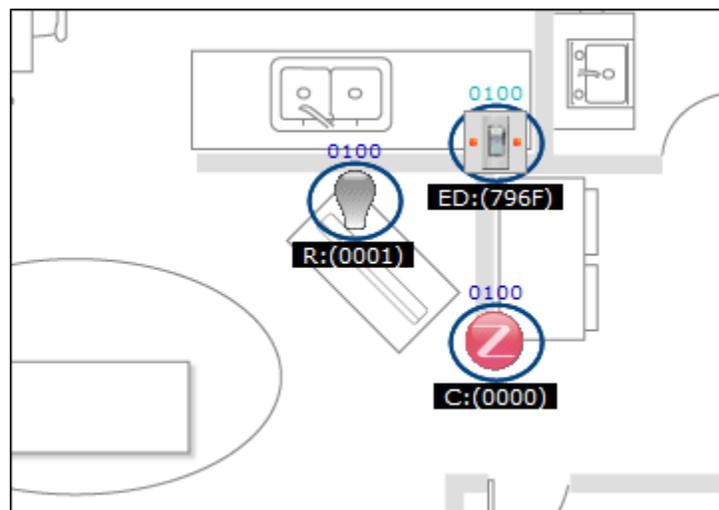

Figure 4-18. Light and Switch Icons Update their State after a Group Off Command
8. Press and hold SW2 (Off command) on the board that is running the On/Off Switch application. LED2 on that board turns off. As shown in Figure 4-18, the light bulb icon on the ZeD GUI also turns off. The LEDs on the On/Off Switch icons turn red to indicate that the Combined Interface has received the On/Off Switch Off command broadcast to the group.